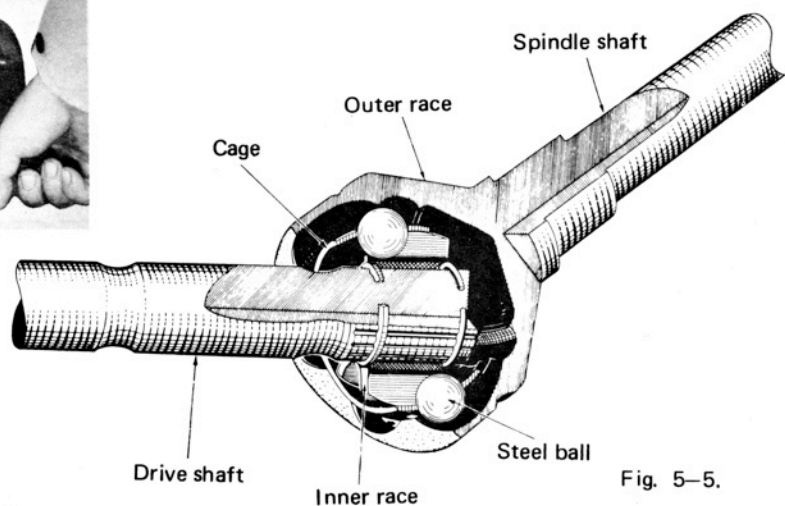

Fig. 5-5.
The joint consists principally of the outer race, inner race, cage and balls as illustrated in the Fig. 5-5. When the joint angle varies, the inner race moves just as the ball bearing, ensuring smooth transmission of the drive torque. When the joint rotates, the six (6) balls become locked in position, carrying the drive torque from the drive shaft, inner race and balls to the outer race.